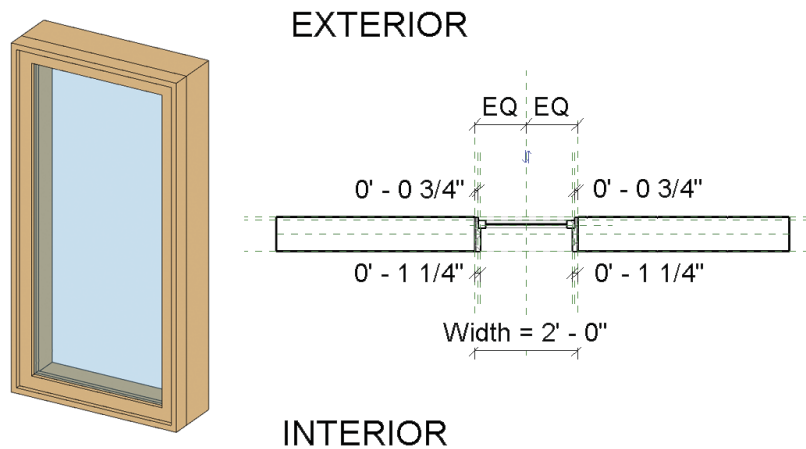

FIGURE 6.19 Window plan and 3D view in the Family Editor
1. From the Project Browser under Families, locate and expand the Windows category. Right-click Fixed (M_Fixed), and select Edit from the context menu to open the family in the Family Editor (Figure 6.19).